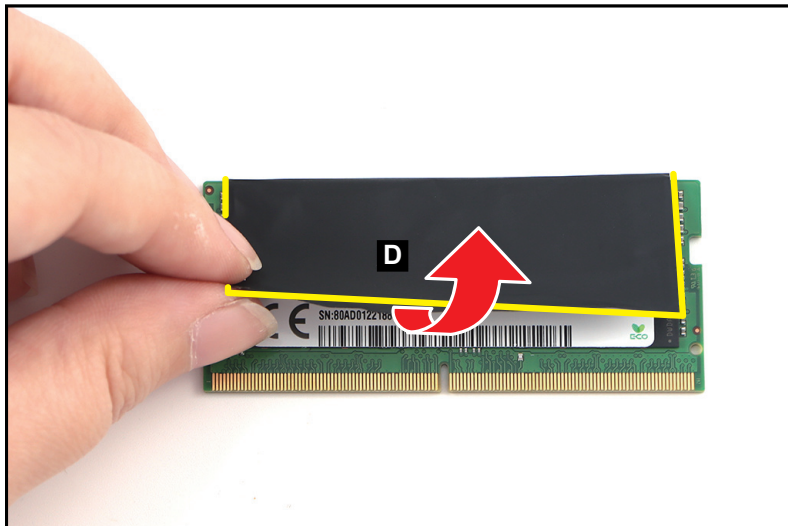

Figure 1-20. DIMM Module Removal
5. Peel off the composite foil with thermal pad (D) from the DIMM module (Figure 1-20).